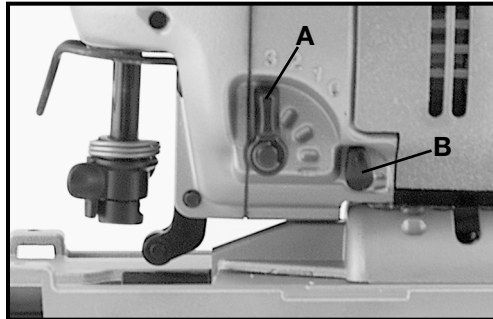

Fig. 6
2. Gently squeeze the switch trigger until the blade shaft moves slowly and stop the motor when the blade shaft is at or near the bottom of its stroke (Fig. 6).
The blade orbit may be varied by turning knob (A), Fig. 6, to any of four positions indicated by the numbers "0" through "3", with "0" producing no orbit and "3" producing maximum orbit. The orbit may be adjusted with or without the motor running. Move knob (A), Fig. 6, to the detent in the housing corresponding to the number on the housing. The knob is shown in the vertical position "3". The horizontal position would be setting "0". Metal cutting should be performed in orbit setting "0".
This saw is equipped with a chip blower to keep the cutting area free of chips. Use knob (B), Fig. 6, to turn the chip blower on and off. The knob is shown in the "ON" position, to turn the chip blower "OFF" turn the knob clockwise until it stops.